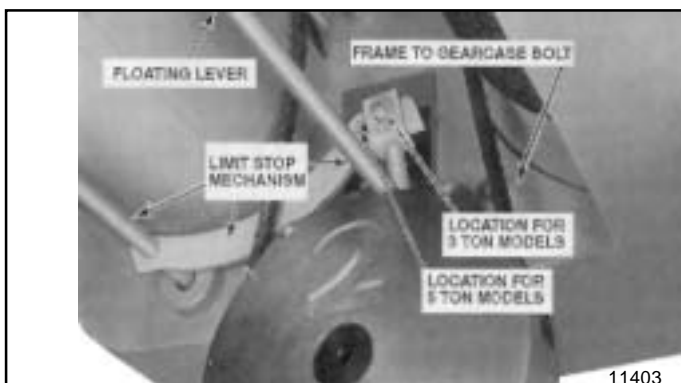

Figure 2-2. Limit Stop Mechanism Being Tripped By Lower Block.
(1) A block operated upper limit stop (Figure 2-2) is furnished as standard equipment. This limit stop is factory set to stop lower block in its high position and guard against over-travel and possible damage to hoist. (Note mounting position of floating lever for 3 and 5 ton hoists.) No adjustment can be made. Limit switch operation should be tested when hoist is installed. Move hook to a low position by depressing push button marked **â**. Now depress button marked **↑** to raise hook. While hook is traveling upward, manually (or with an extension pole) raise limit stop mechanism (Figure 2-2).